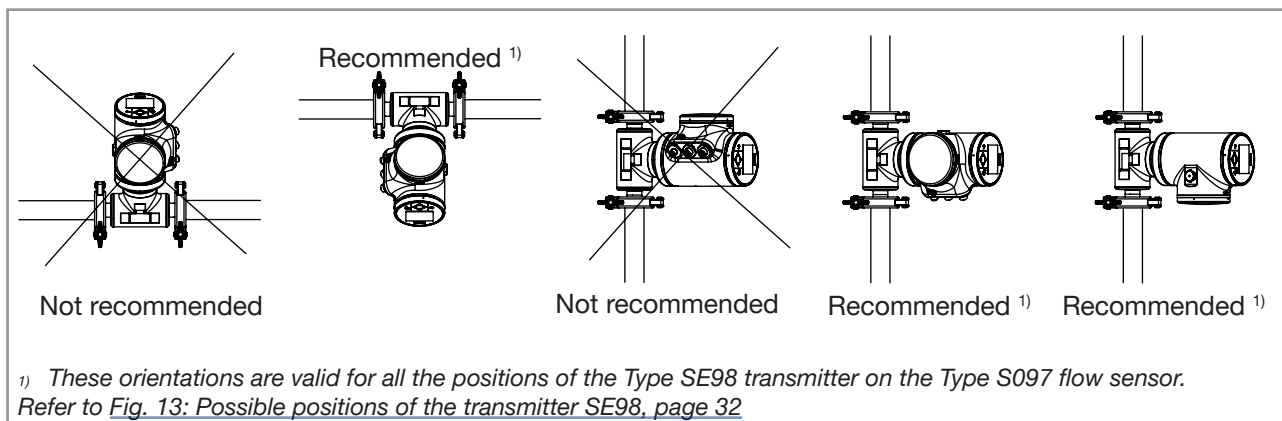

Fig. 18: Orientation of an Ethernet device variant to permit the heat dissipation
- To make sure the internal temperature of the transmitter does not exceed the authorized maximum value, install an Ethernet device variant as recommended in Fig. 18.